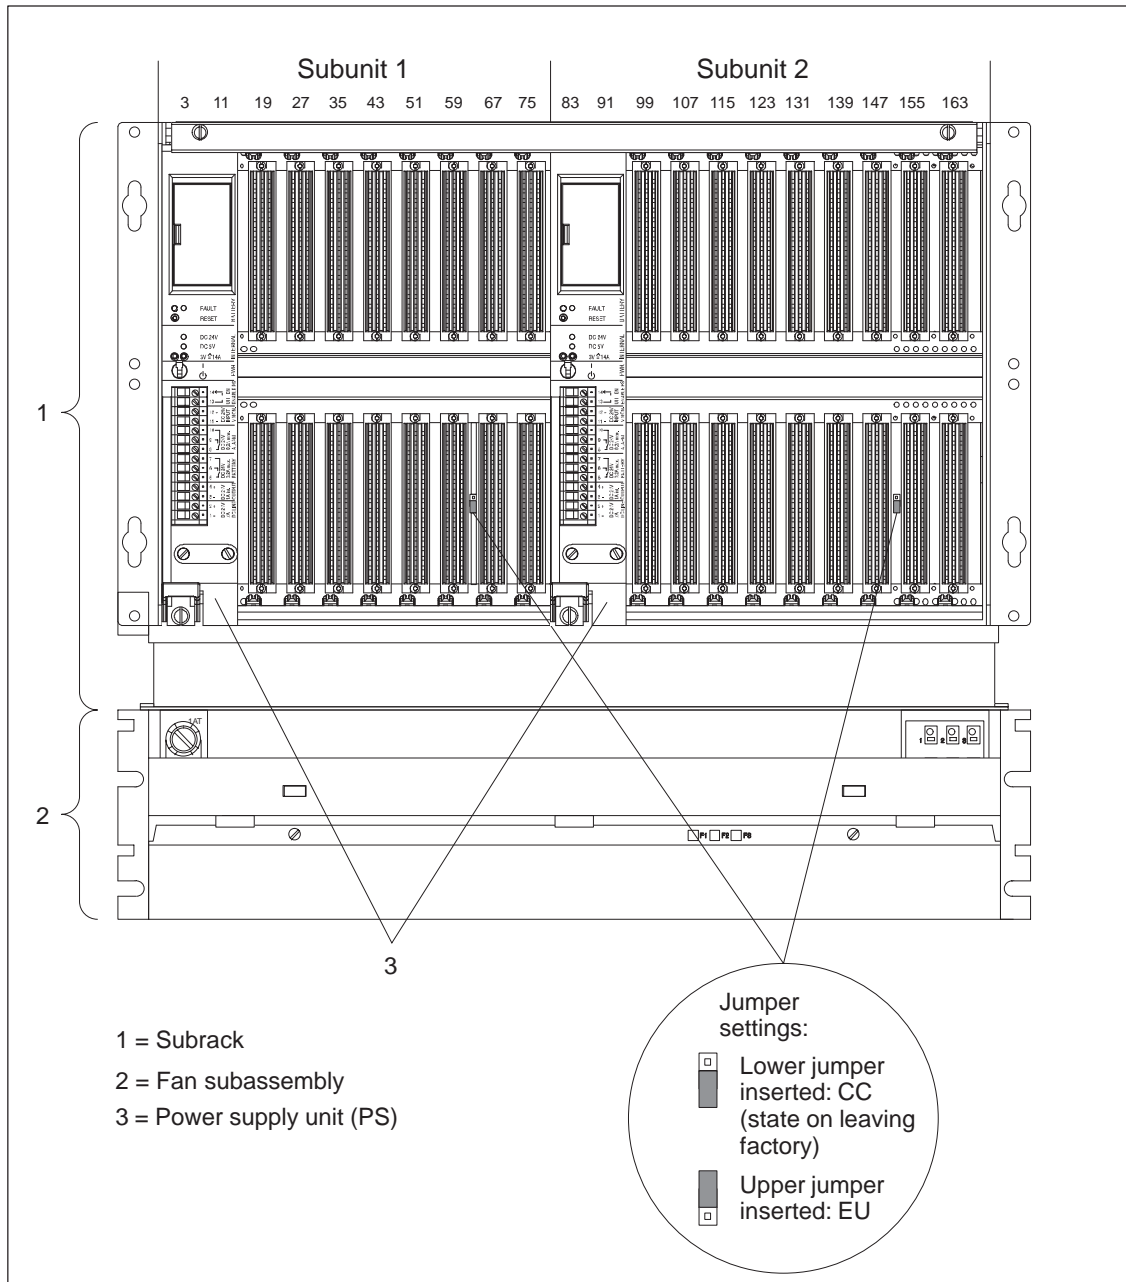

Figure 1-1 CC 155H, Front View
The CC 155H (see Figure 1-1) comprises the following components:
- Central controller mode (CC)
- Expansion unit mode (EU)
- The modes are set using jumpers. These jumpers are accessible from the front in the subrack (see Figure 1-1).